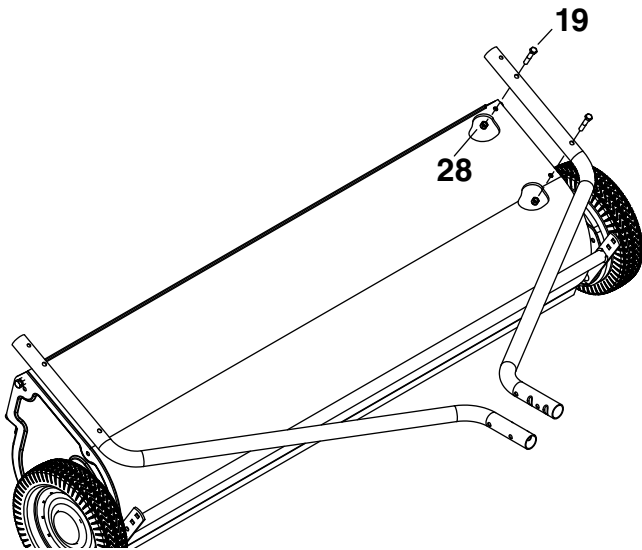
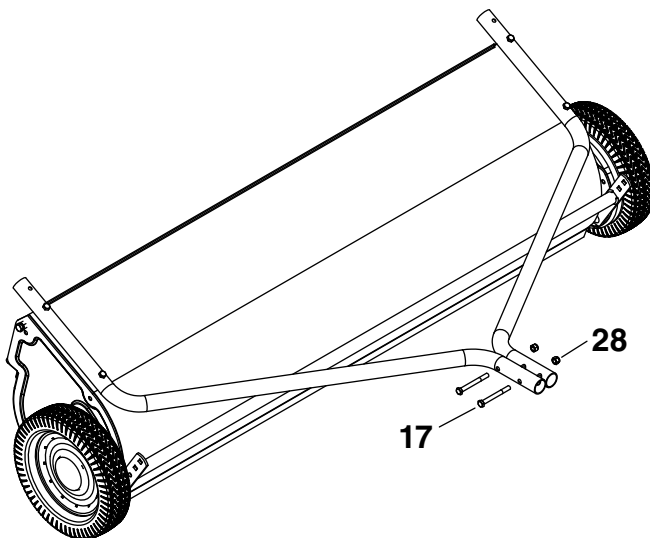

FIGURE 1
FIGURE 2
- Assemble the hitch brackets to the hitch tubes. using two 5/16" x 2-1/4" hex bolts (18) and 5/16" nylock nuts (28). If your tractor drawbar has 10" or more ground clearance, place the bent hitch bracket on top. If it has less than 10" clearance, place the straight hitch bracket on top. **Do not tighten yet.**
- Tighten** all loose bolts and nuts as follows: Tighten the bolts and nuts assembled in figure 1. Tighten the bolts and nuts assembled in figure 2.
- Assemble the hitch pin (36), two 3/4" spacers (32) and the large hairpin cotter (33) to the hitch brackets.